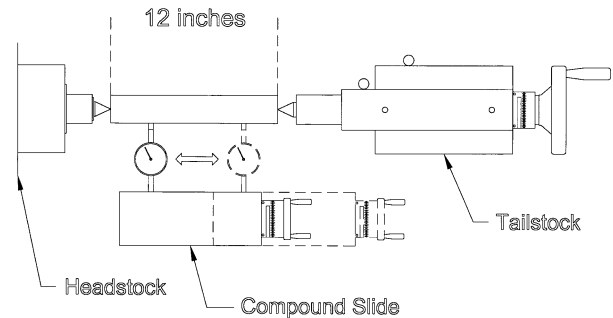

Fig. 27
1. Fit a 12" ground steel bar between centers of the headstock and tailstock (Fig. 27).